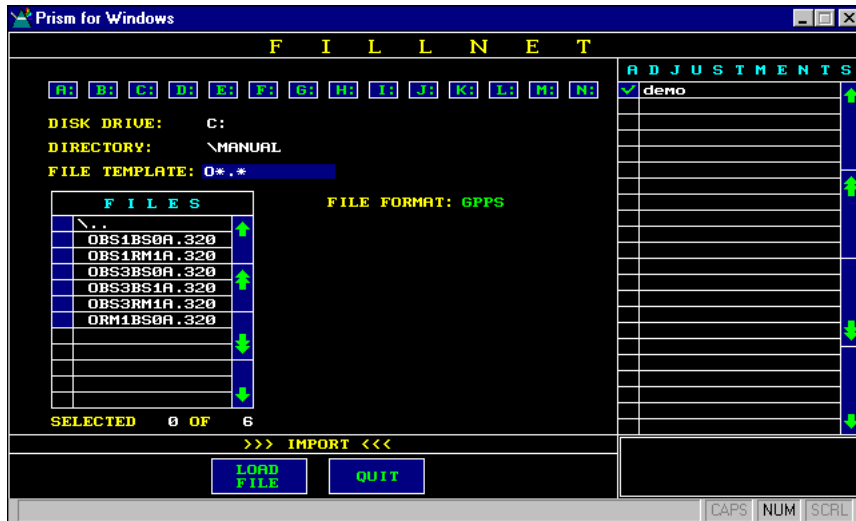

Figure 2.5: IMPORT option
- Click on the **IMPORT** button. The **IMPORT** menu should appear, as shown in Figure 2.5